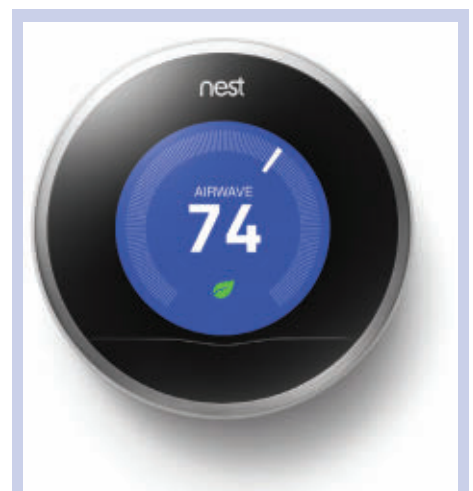

Figure 2. The Nest thermostat is a popular IoT product using Wi-Fi that lets you control and monitor your HVAC remotely.
Figure 2: The pallet is a 10 inch square of 1/4" Coroplast and the spacer is made from a sheet of the thinner 3/16" thick Coroplast that was cut, folded, and taped together. Most glue will not adhere to polypropylene, so I resorted to taping the ends of the Coroplast together. The spacer stands four inches tall.
The avionics and experiments are bolted to the pallets which are made from 1/4" thick Coroplast. Normally, I just use 3/16" thick Coroplast in my airframes, but the 1/4" thick variety is significantly stiffer and will stand up better when heavier items are bolted to it. I used 3/16" thick Coroplast for the spacers since they're turned edge up and very resistant to flexing and bending in this orientation. **Figures 2 and 3** show a spacer and the stacked pallets and spacers.
base through guide holes on the sides. Two sidecars are connected to each other with a rubber band as mentioned. The design has two pieces: a base to hold the breadboard and the sidecar which can slide in from either side. This requires three objects to print: one base (Figure 2) and two sidecars (Figure 3). Each 3D design has pads on the corners to help hold them down to the platform of your 3D printer. You can get the same effect with adding a brim or a raft. The idea is
■ FIGURE 2. Breadboard base.
is one key target (**Figure 2** is a good example). So are major appliances like the refrigerator, the washing machine, or the coffee maker. The reason for the interconnection has yet to be determined in some cases, but as an example, the refrigerator may report its physical status back to the manufacturer or you may want to be able to turn the coffee maker off or on remotely.